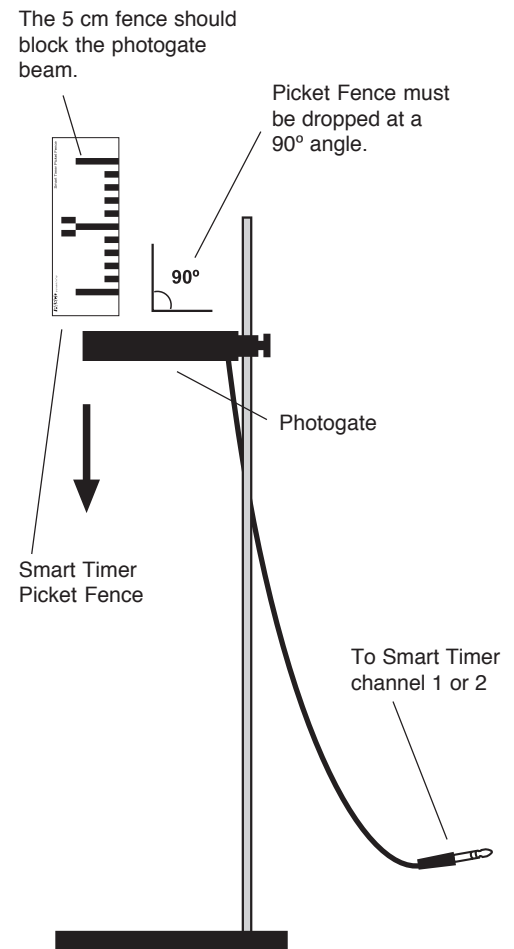

Figure 1.2
1. Mount the photogate on a stand, or hold the Photogate steady so it is parallel to the floor, as shown in Figure 1.2.